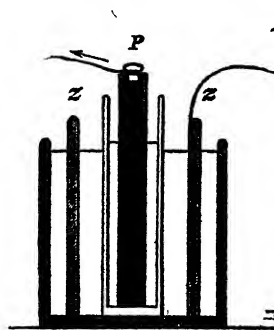

FIG. 16.
*Grove's Nitric Acid Battery.*—In this arrangement (Fig. 16) a zinc cylinder is placed in the outer cell. Inside the cylinder is a porous pot, with a platinum plate for the negative element. The exciting liquids are common nitric acid with the platinum, and a solution of sulphuric acid with the zinc. The action of the battery is very powerful, but it does not remain in order for any length of time. This battery is unpleasant for using in a room, as the fumes from the nitric acid are disagreeably strong.